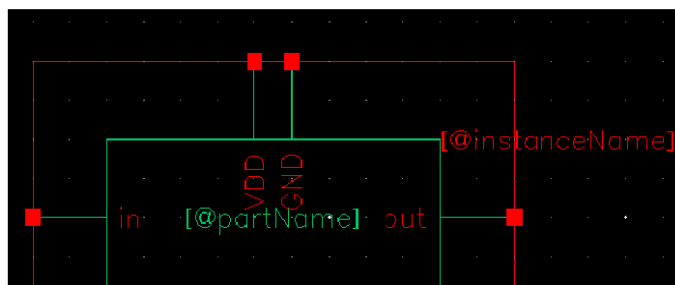
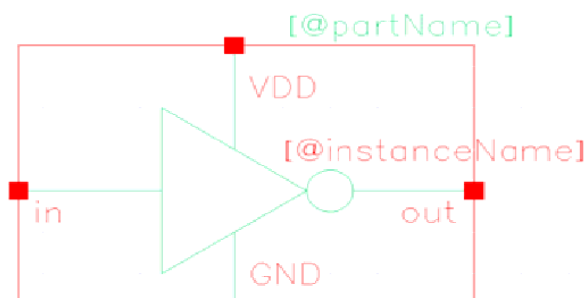

Figure 5. Default symbol of inverter
Figure 6. Complete inverter symbol
- The symbol which is initially created will look like Figure 5. Please modify the symbol so that it resembles a general symbol of inverter as given in Figure 6 (See appendix). Then save it.